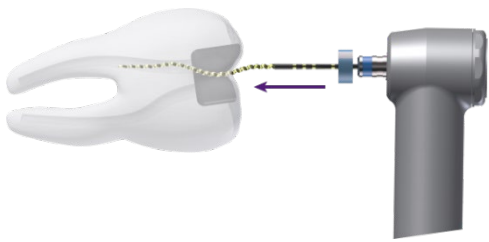

Figure 1
- 7) Insert the shaping file **XP-4D® STANDARD** into the canal until resistance (Fig. 1), retract (tip loose) and start the motor.